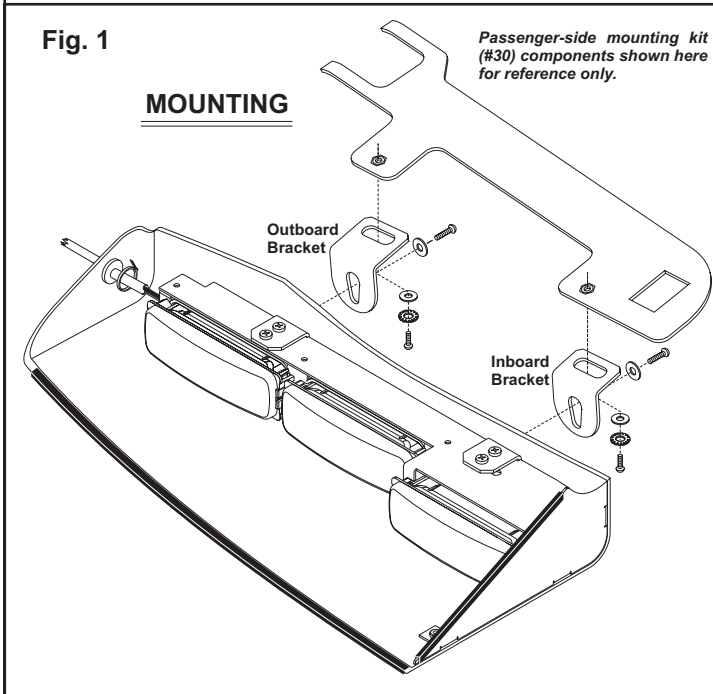

Fig. 1
4. Locate the passenger-side mounting bracket (indicated with a "P" label) and orient as shown (See Fig.1).
9. Position the lightbar as shown in Fig. 1. Using the hardware provided, secure the lightbar to the mounting bracket.